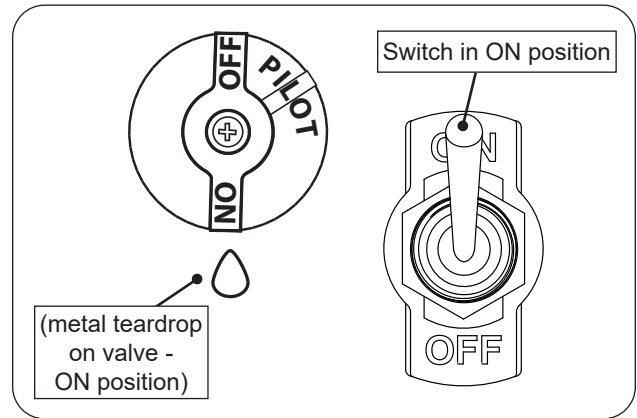

Fig. 24-1 Manual lighting
1. Ensure the pilot is burning. Turn the control knob counterclockwise ↶ to **ON** (see Fig. 24-1).
2. Flip the toggle switch to **ON** to ignite the burner (see Fig. 24-1).